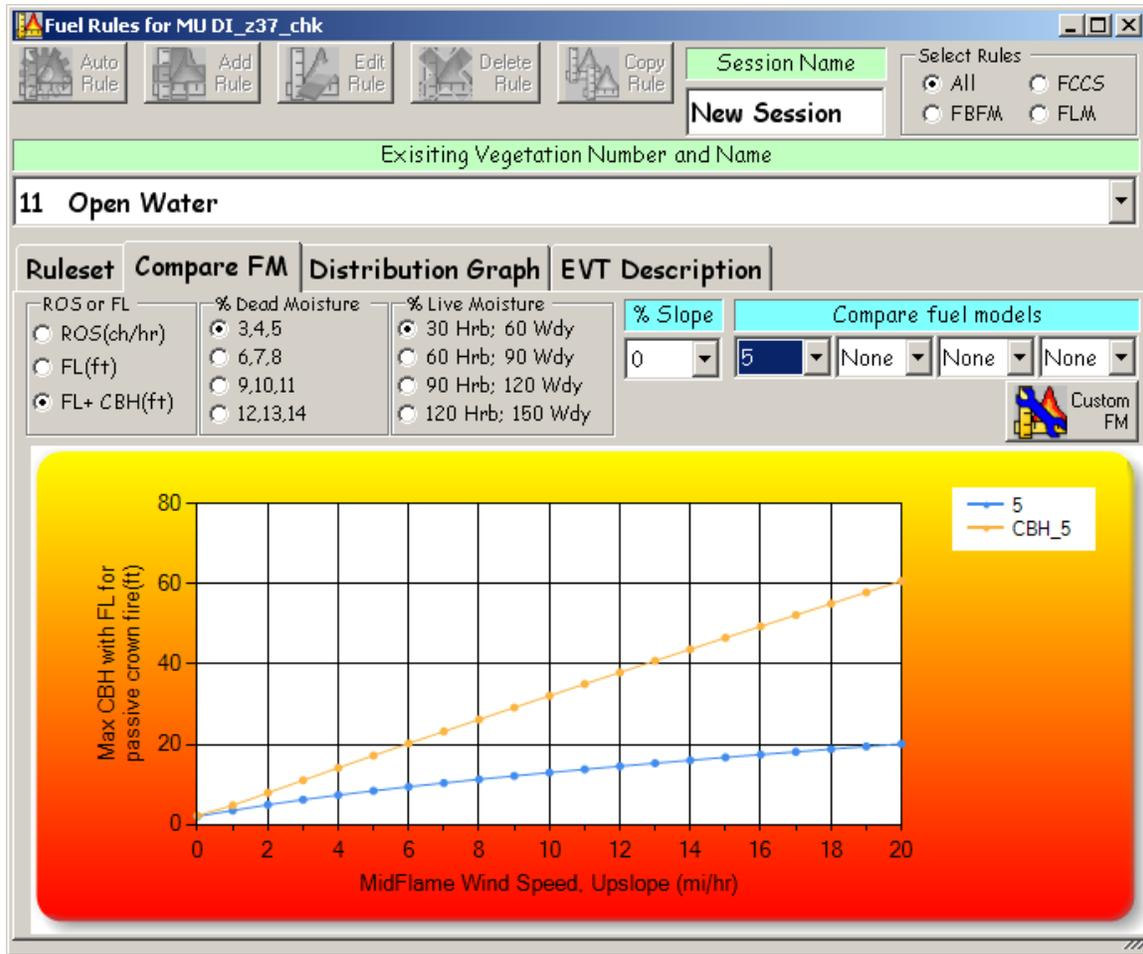

Figure 7-32. Fuel Rules screen with Compare FM page displayed.
This page graphically illustrates fire behavior traits, such as Rate of Spread (**ROS**) and Flame Length (**FL**) for surface fuel models in the FBFM 13 and FBFM 40 systems at various fuel moisture regimes, wind speeds and slope. A graphic display of CBH range that would initiate crown fire behavior at various fuel moisture regimes, wind speeds, and slope is also included (fig. 7-32).
- This task is accomplished by clicking the Custom FM icon shown above (fig. 7-32).